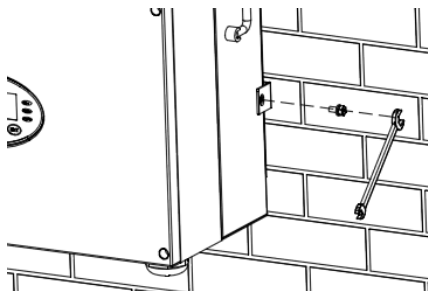

Figure 4.13 Installation of M6X16 bolts
- (6) Ensure the inverter is installed properly and tighten the M6X16 bolts into the screw holes on the left and right side of inverter (tightening torque is $4\text{N}\cdot\text{m}$). As shown in Figure 4.13.